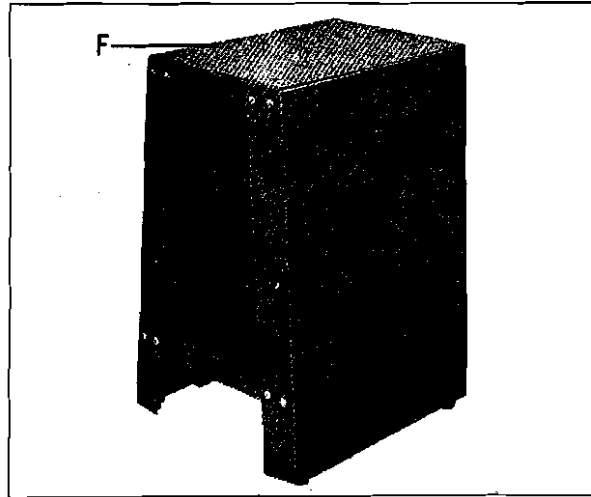
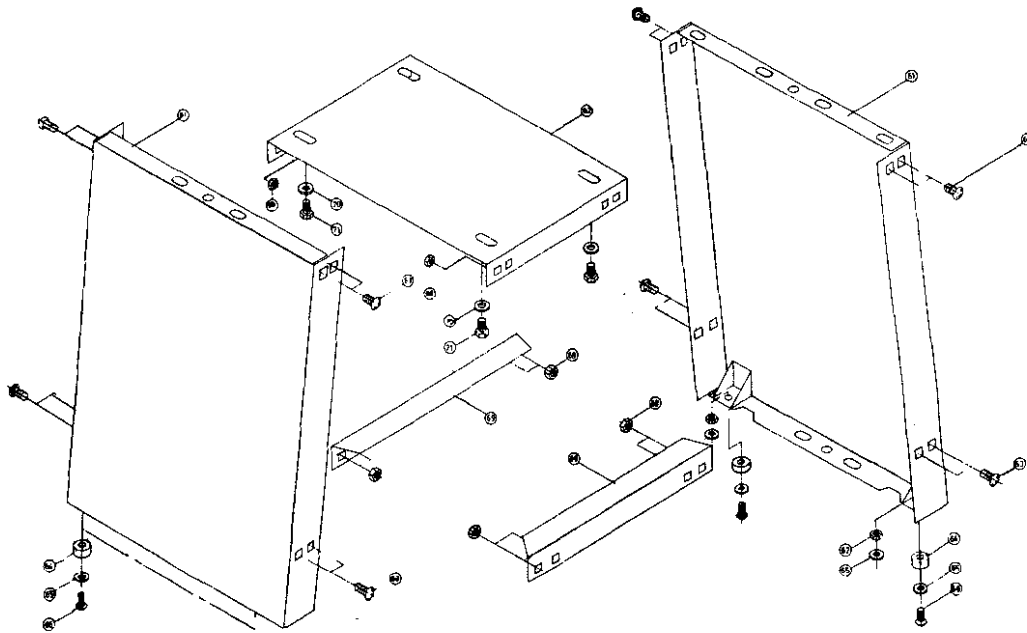

Fig. 4
Fig. 4-1
**Step 2.** Place lid (F) on top of stand and bolt together as shown in Fig. 4. Being sure of table squareness, tighten all bolts. Turn stand upside down and install the four rubber feet in the holes in the bottom of the stand. (Fig. 4-1) Again, be sure to tighten all bolts.